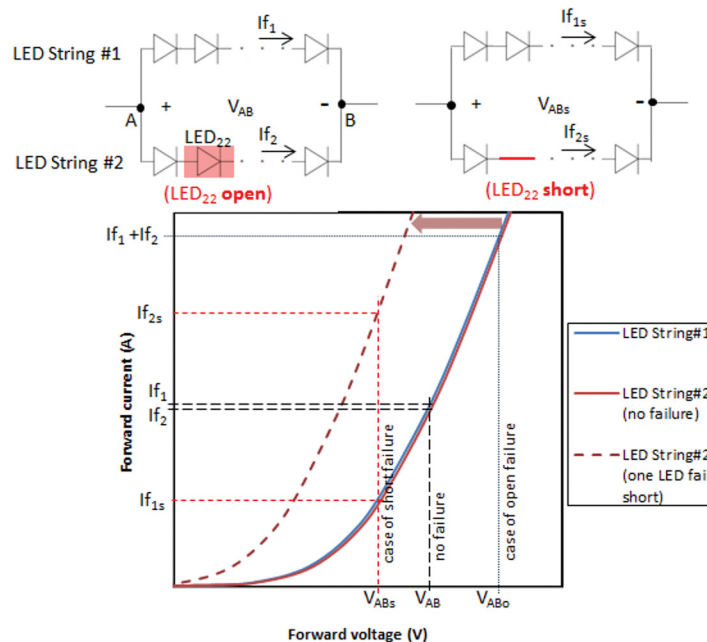

Figure 10: Case example of a series-parallel configuration showing how the current-voltage curve shift when one LED fails short.
A case example: Consider a LED system connected in series-parallel where each LED string has n LEDs in series and there are two parallel LED strings driven by one constant current power supply (Figure 10). In this example, the current flowing through each string (I_{f1} and I_{f2}) is about equal since the two LED strings have good forward voltage matching (by design).
- An open failure on one LED unit (LED₂₂ in Figure 10) results in all of the current ($I_{f1} + I_{f2}$) flowing through LED string #1. The forward voltage of the LED will increase from V_{AB} to V_{AB0} (Figure 10 graph). The increase in both the current and voltage may potentially exceed the thermal design of the LED system or the LED max rating which may cause the LED string #1 to fail eventually.
- Short failure on one LED unit (LED₂₂) in LED string #2 will result in the current-voltage curve to shift to the left as shown in the red arrow of Figure 10 graph. The forward voltage across both LED strings will drop from V_{AB} to V_{ABs} until the total current remains the same as the output of the constant current source i.e. $I_{f1} + I_{f2} = I_{f1s} + I_{f2s}$ where $I_{f2s} > I_{f1s}$. If thermal equilibrium is not achieved immediately in LED string #2, the excessive heating due to increase current flow will continue to shift its current-voltage curve further to the left as shown Figure 11. Eventually the entire LEDs in that string will fail due to cascading failures.